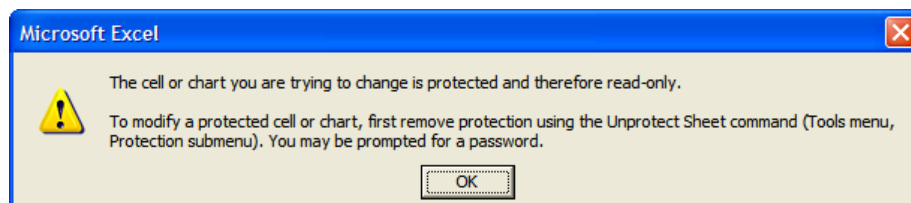

Figure 16-38
**Note:** If you try to type in any cell in the Formulas or Report sheet, the message in Figure 16-38 will appear. The sheet is protected and can only be changed when the workbook is entered from Setup. Please ignore the second sentence in the message; it is a built-in Excel message.